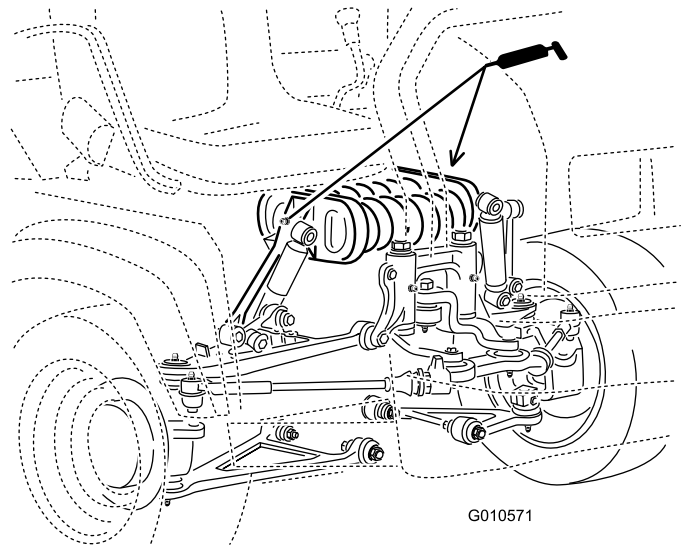

Figure 39
- Spring tower (2) (Figure 39)